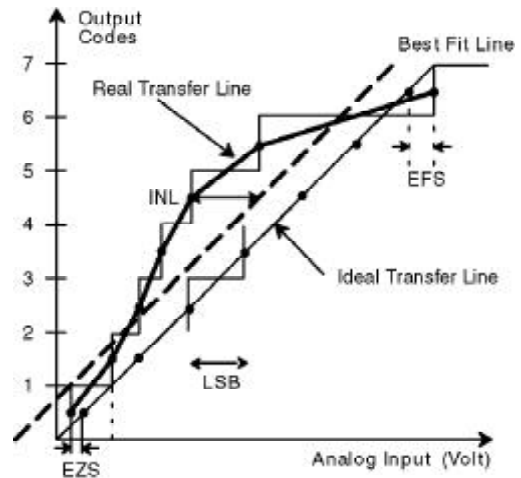
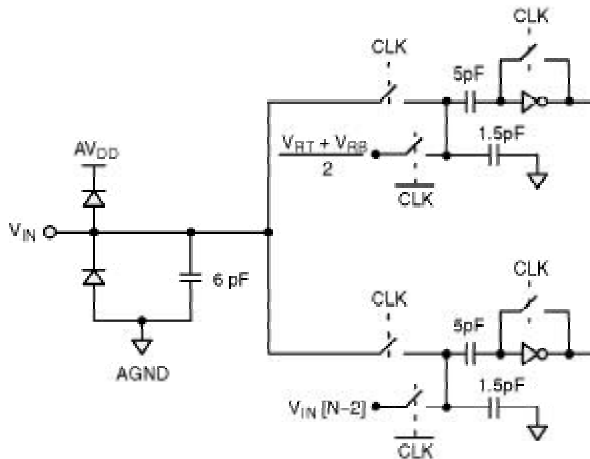

Figure 3. INL Error Calculation
Figure 4. Equivalent Input Circuit
- The difference between the measured and the ideal code width ($V_{REF}/256$) is the DNL error (Figure 3). The INL error is the maximum distance (in LSBs) from the best fit line to any transition voltage (Figure 4). Accuracy is a function of the sampling rate (FS).